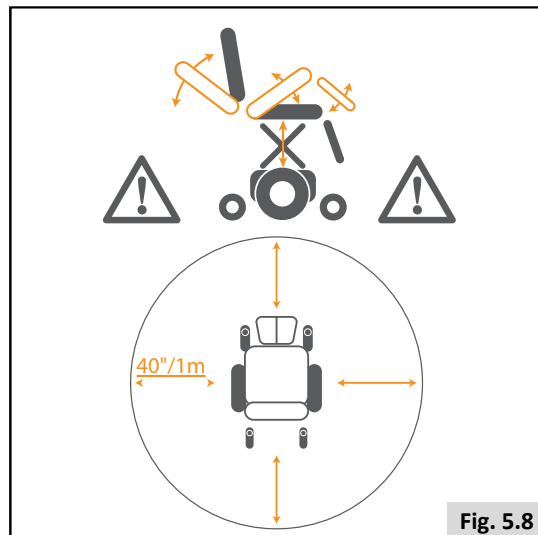

Fig. 5.8
- As with all moving parts be careful not to trap your fingers (Fig.5.8).